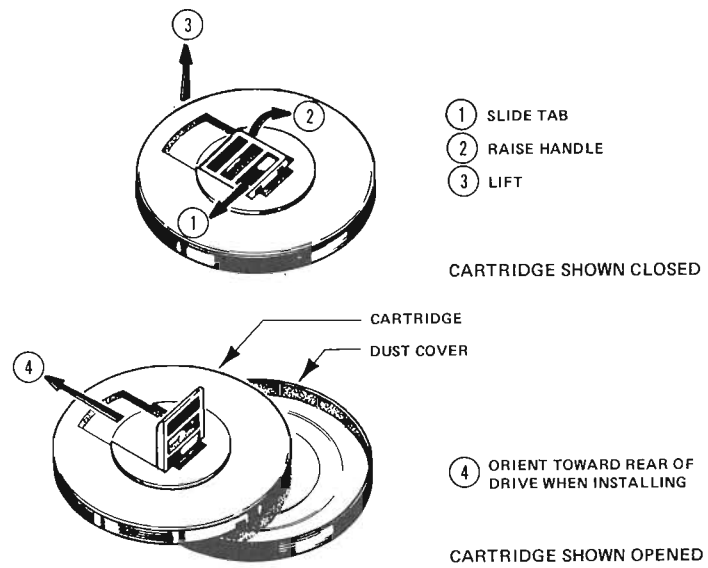

Figure 2-8. OPENING THE TYPE 5440 DISK CARTRIDGE
3. Refer to Figure 2-8. Slide the tab on the cartridge handle to the left, raise the handle, and lift the cartridge clear of its dust cover lower half.